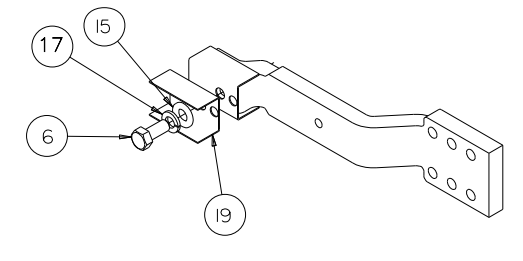

Figure 7
9. Reference fig. 7 - Installing the provision barrier (item 19). In the case of a provision, orient the barriers as shown in fig. 7. Insert the 5/16-18" hex head bolt with a lock washer (item 17) and a flat washer (item 15) through the 0.312 hole in the barrier and through the tapped hole in the B-phase and tighten.